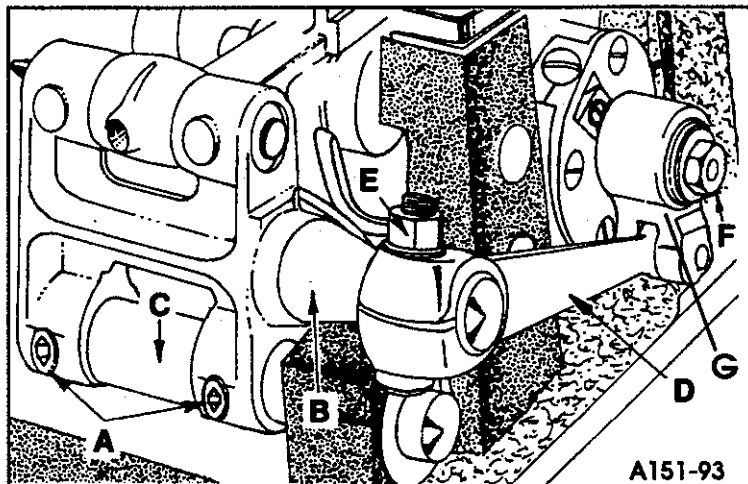

FIG. 13
Right to left adjustment can be made by loosening screws (A, Fig. 13) and slightly move feed rocker (B) on feed rocker shaft (C) as required, then retighten screws. Check to ensure that feed rocker arm (D) does not bind after adjustment.
Forward or rearward centering of the feed dog can be accomplished by loosening nut (E, Fig. 13). Move feed rocker (B) as required and retighten nut.
CAUTION: Feed crank link sub-assembly (G, Fig. 13) **MUST** have shake with **NO** binds at a 360° rotation of the handwheel. Nut (F) should be torqued at 55 in. lbs. (63 cm/kg).